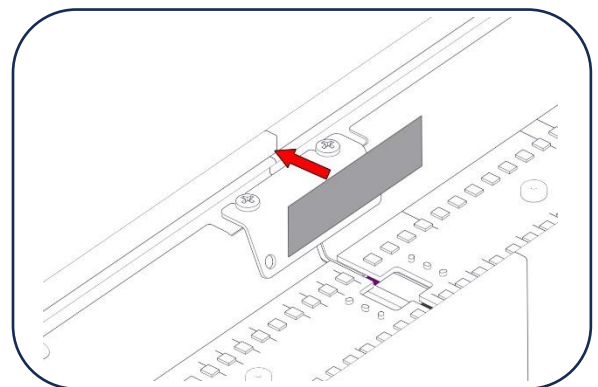

Figure 8
24. Apply the included Tape over the joint, above the Center Support Brackets. Use Tape Tool to easily push the tape into the housing cavities. [Figure 8]